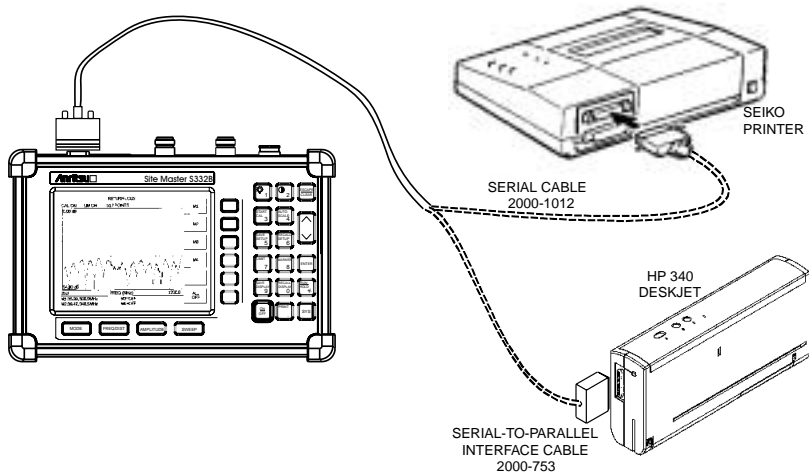

Figure 3-11. Site Master Printer Setup
**Step 1.** Connect the printer as shown in Figure 3-11.